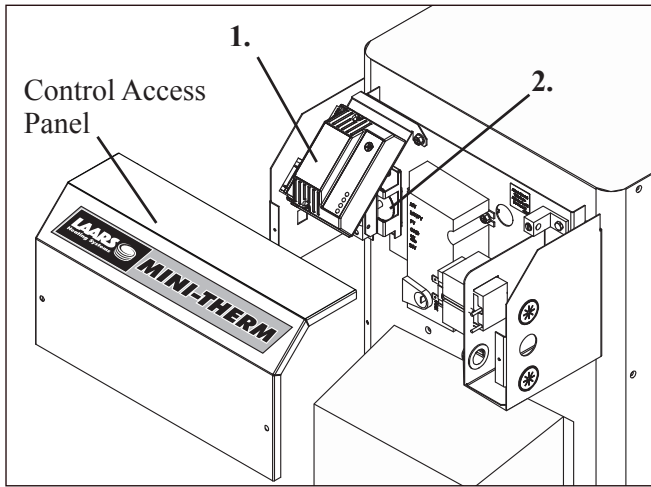
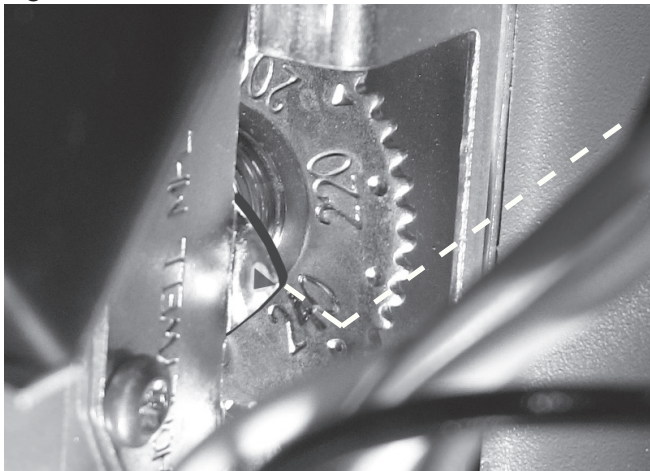

Figure 18A.
Figure 18B. Secondary, mechanical high-limit aquastat
**Important:** If the secondary controller (See Figure 18A and Figure 18B) dial is set below 220F, it may inhibit proper operation of the primary controller. Prior to calling for technical support, please ensure high limit control is set for at least 220F.